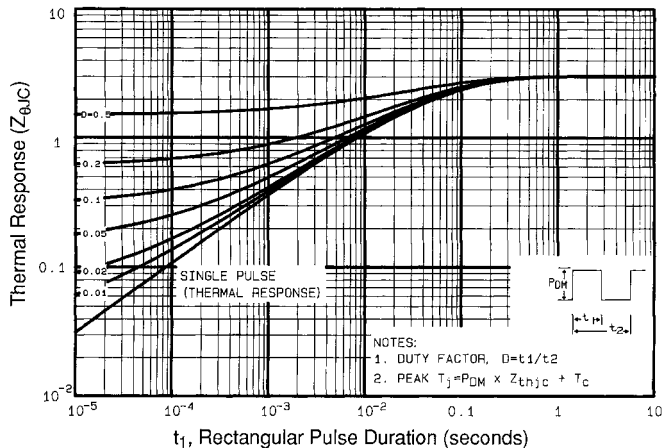

Fig 11. Maximum Effective Transient Thermal Impedance, Junction-to-Case
① Repetitive rating; pulse width limited by max. junction temperature (See Figure 11)
③ $I_{SD} \leq 3.1A$, $di/dt \leq 65A/\mu s$, $V_{DD} \leq V_{(BR)DSS}$, $T_J \leq 150^\circ\text{C}$